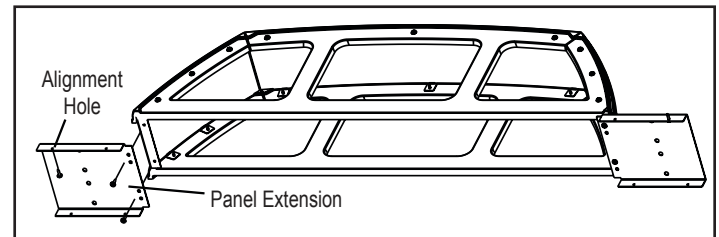

Figure 21.5
6. Attach the hearth support panel extensions. **Figure 21.5**